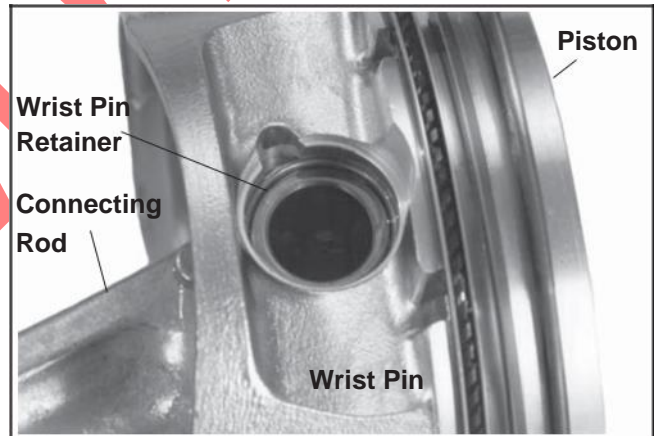

Figure 9-48. Separating Piston from Connecting Rod.
1. Remove the wrist pin retainer and wrist pin. Separate the piston from the connecting rod. See Figure 9-48.